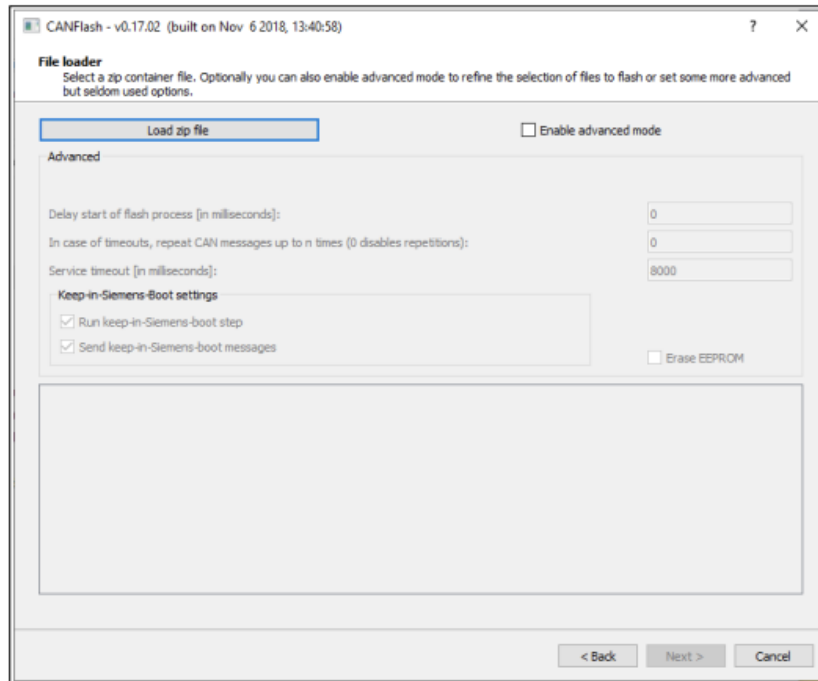

Figure 18: Load zip file in CANFlash
54. Click **Load zip file**. Select **SS100214_Official Release Bootloader 5.11.zip** (see figure 18). Ensure the knob on top of 1144289 is set to inverter ID 2. Click **Next** when complete.